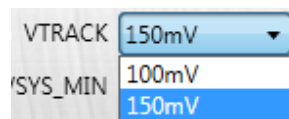

Figure 14: Setting Voltage Variation
- The default value is 150mV (see Figure 14).